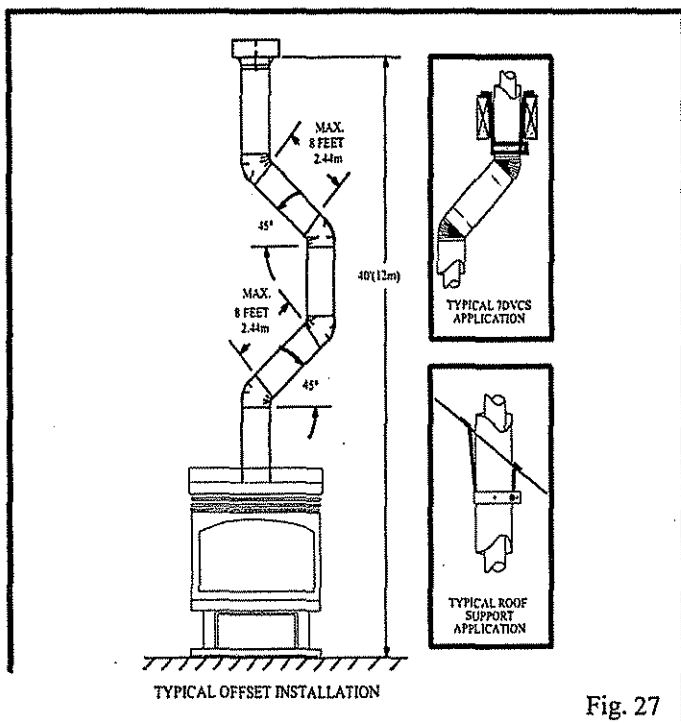

Fig. 27
7. Install roof support (Fig. 27) and roof flashing making sure upper flange of flashing is below the shingles. Fig. 30.